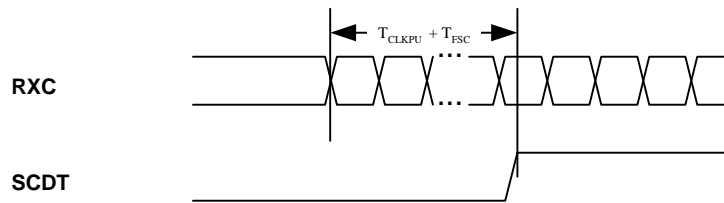

Figure 7. Wake-up on Clock Detect
- Data is active (i.e. not tri-stated) but not valid yet. Data and controls are valid only when SCDT goes high. See TFSC and Figure 7.